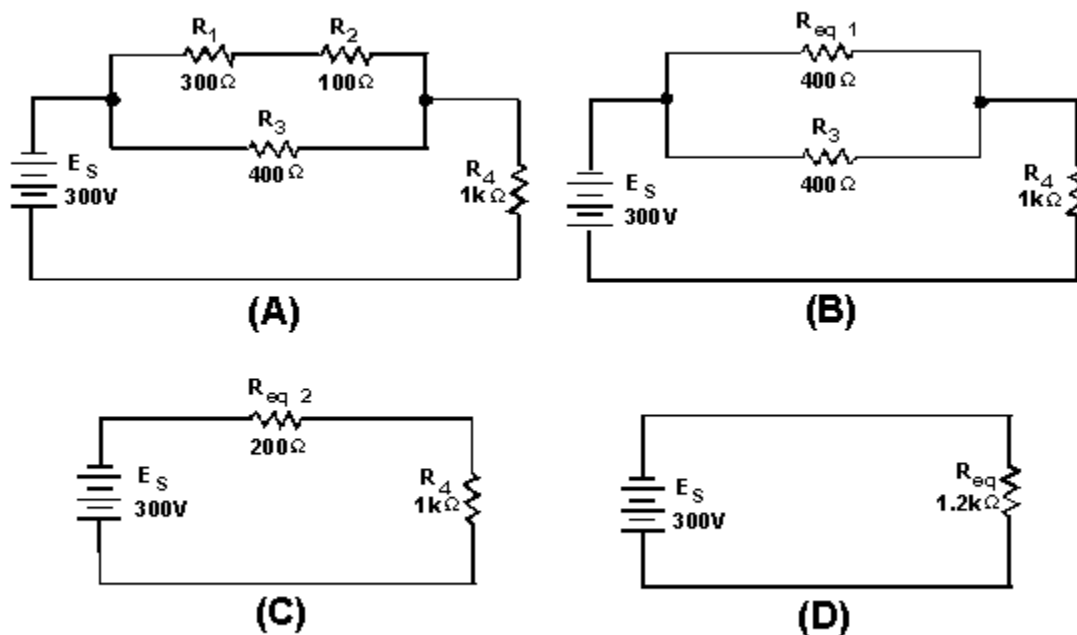

Figure 3-55.—Combination practice circuit.
Figure 3-55 is a typical combination circuit. To make sure you understand the techniques of solving for the unknown quantities, solve for  $E_{R1}$ .
Redraw the circuit as shown in figure 3-55(B).
Redraw the circuit as shown in figure 3-55(C).
*Q42. Refer to figure 3-55(A). If the following resistors were replaced with the values indicated:  $R_1 = 900\Omega$ ,  $R_3 = 1k\Omega$ , what is the total power in the circuit? What is  $E_{R2}$ ?*